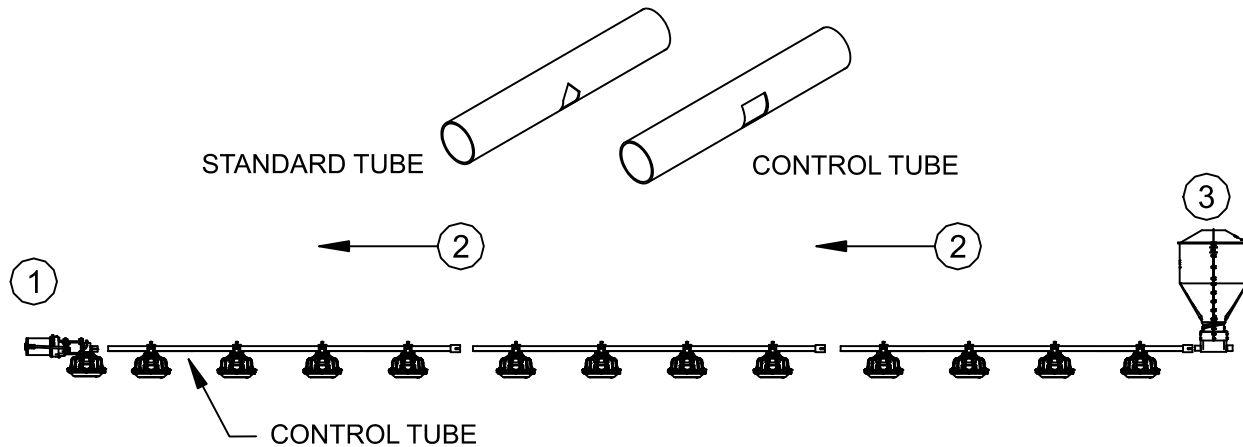

Figure 40. Attaching Feeder Tube Assemblies
1. The actuator, auger tubes and feeders may be laid out end to end in approximately the final location of the line. **The belled end of each tube should be toward the (3) Hopper end of the line. See Figure 40.** Be sure to have the correct number of tubes and the actuator is in the center of the section to be controlled by an actuator. **Place the actuator between the tubes near a suspension drop.** All actuators must be installed in the same direction. One actuator handles up to 96 feeder pans with the actuator placed dividing the (96) pans approximately in half.
2. Connect the individual feeder tubes together by inserting the straight end of one tube as far as possible into the (2) belled end of the next tube. **The last Feeder Tube before the (1) End Control Pan or Mid Line Control pan must be a Control Tube.**